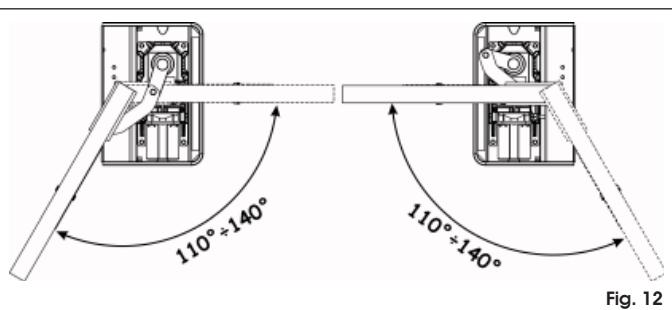

Fig. 12
**⚠ In order to determine the exact position of the operator with the levers for 110° and 140° opening, please refer to fig. 12. In any case the operator pinion must be on the opposite side of leaves opening direction.**